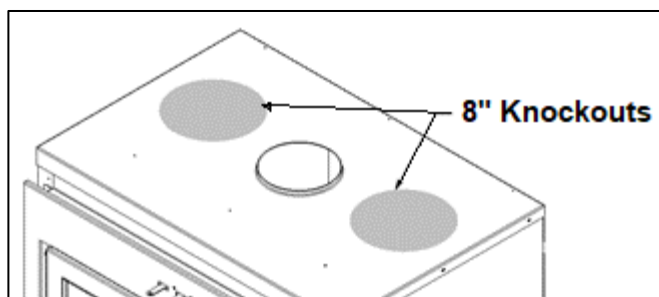

Figure 3-18: 8 Inch Knockouts for Gravity Kit
7. Remove the two 8" knockouts at the top of the unit using a flat head screwdriver (Figure 3-18).